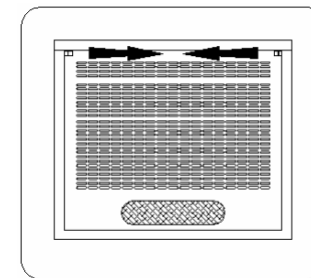
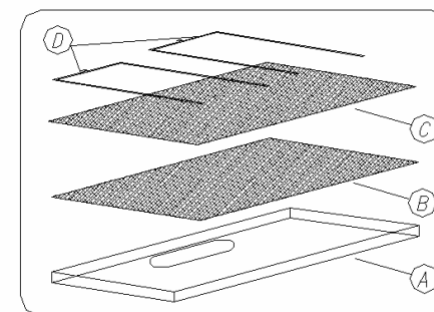

Fig. 5
Fig. 6
In this setting it is necessary to install the carbon filter (Fig. 6).
The grease filter should be replaced at least every two months during normal operation of the hood. The filter can be dismantled by releasing its securing studs (Fig. 5), keeping in mind that the filter has to be protected with your hand during releasing the studs, removing catches D which secure the filters (Fig. 6), then you can replace the filter and reinstall the catches and the mesh.
Carbon filters (C Fig. 6) can absorb odours until they are saturated. They cannot be washed or regenerated and should be replaced at least every 2 months or more frequently in case of very intensive use.
- remove masking cover A (Fig. 6) together with grease filter B,